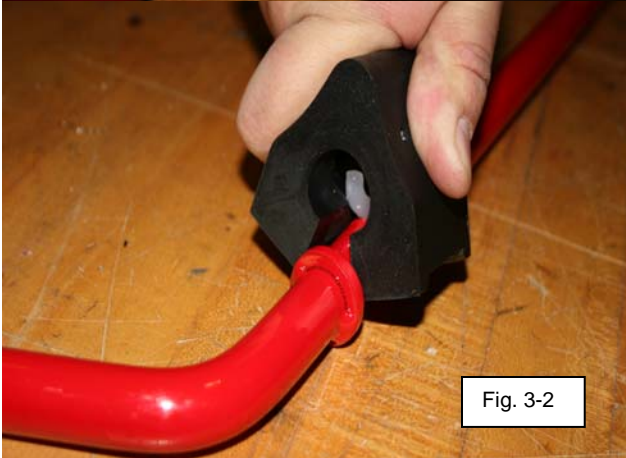

Fig. 3-2
(2) Bushings should be installed between the welded locating rings. (Fig. 3-2)